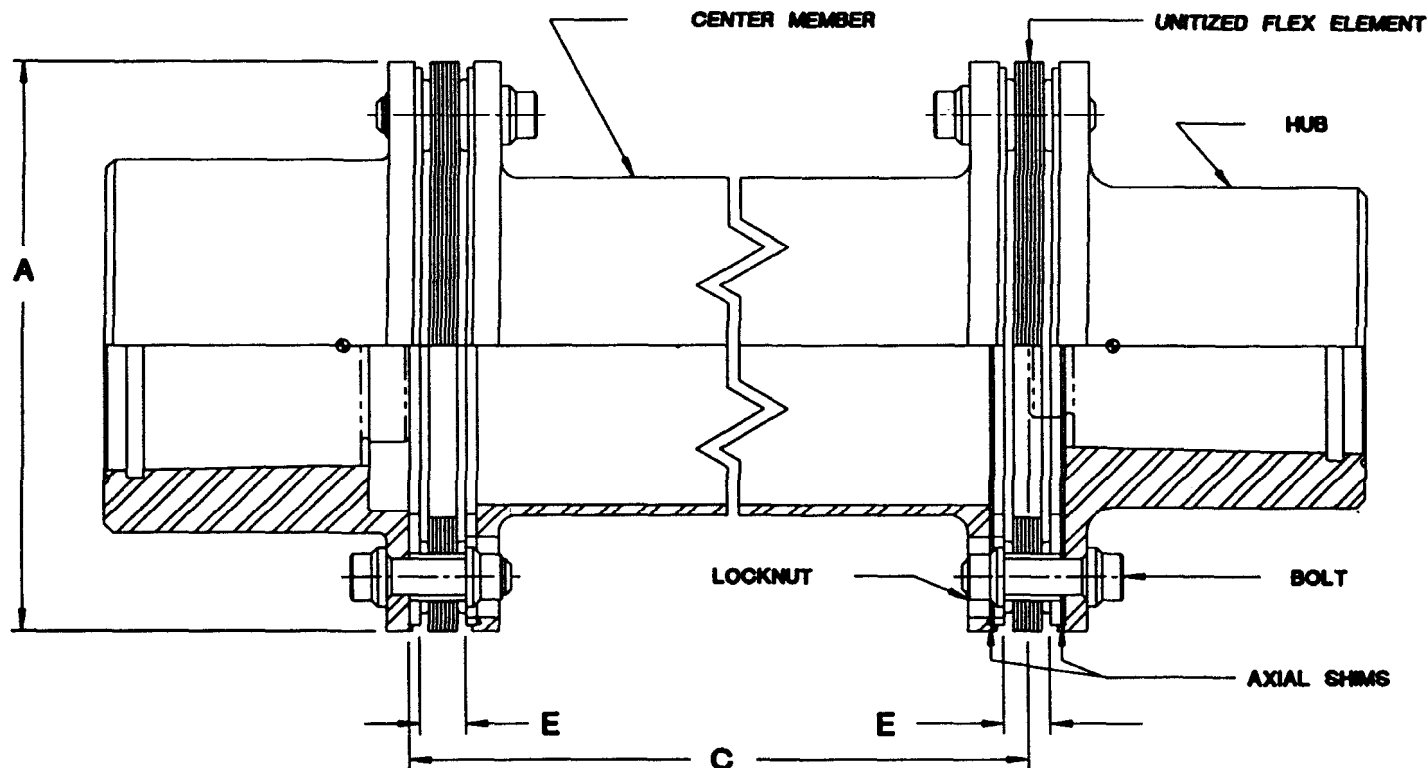

Figure 1
B. Axial Spacing. The axial spacing of the shafts should be positioned so that the disc packs (flexing elements) are flat when the equipment is running under normal operating conditions. This means there is a minimal amount of waviness in the disc pack when viewed from the side. This will result in a flexing element that is centered and parallel to its mating flange faces. Move the connected equipment or adjust the axial shims provided to accomplish the above. As a guide, maximum and minimum values for dimension "E" are given in Table 1. See Figure 1 and the assembly drawing for number of shims at each location. For a more exact number for "E" see figure 6.
A. **Standard Design.** (See Figure 1 and/or assembly drawing).